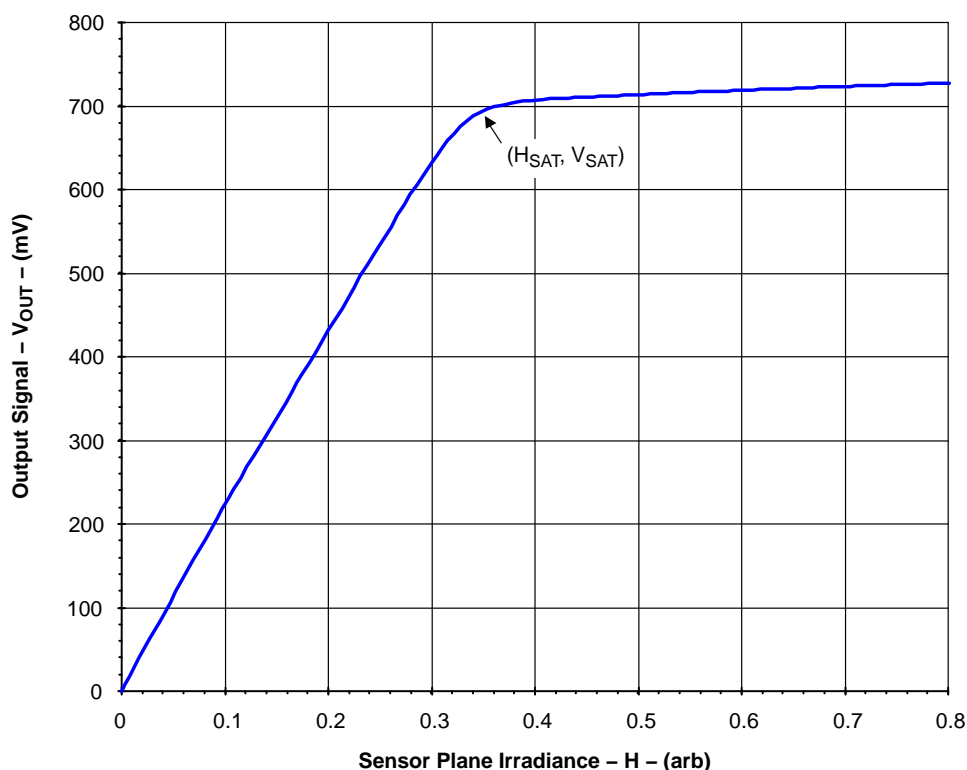

Figure 6. Typical KAI-0373 Photoresponse
3. For a 100×100 pixel region under uniform illumination with output signal equal to 80% of saturation signal. Saturation signal, V_{SAT} , is the output voltage at the knee of the output vs illumination curve as shown in Figure 6.
4. This is the global variation in chip output across the entire chip measured at 80% saturation and is expressed as a percentage of the mean pixel value. Saturation signal, V_{SAT} , is the output voltage at the knee of the output vs illumination curve as shown in Figure 6.